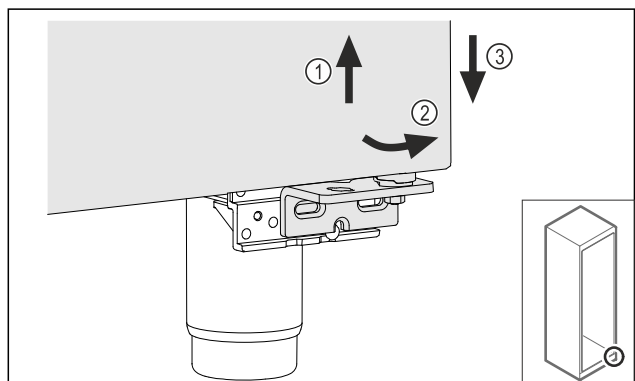

Fig. 21
- ▶ Lift the door slightly *Fig. 21 (1)*, tilt it forwards at the bottom *Fig. 21 (2)* and lower it *Fig. 21 (3)*.